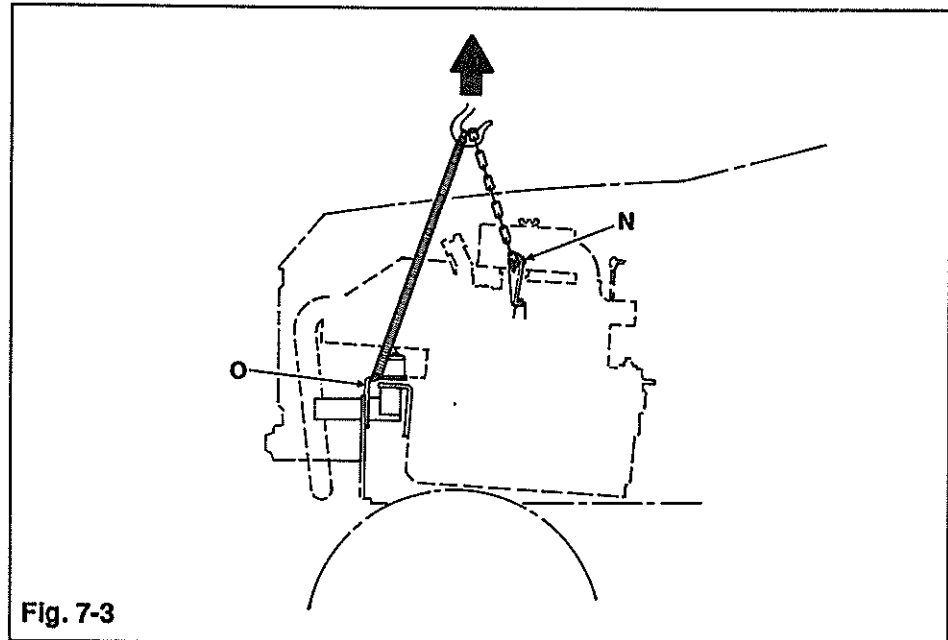

Fig. 7-3
10. Attach a lift chain to the lift brackets (N, Fig. 7-3) on the engine, and a leveling chain or strap under the front engine mounts (O). A hoist of minimum 300 lbs lift capacity should be used to lift the engine from the tractor chassis.